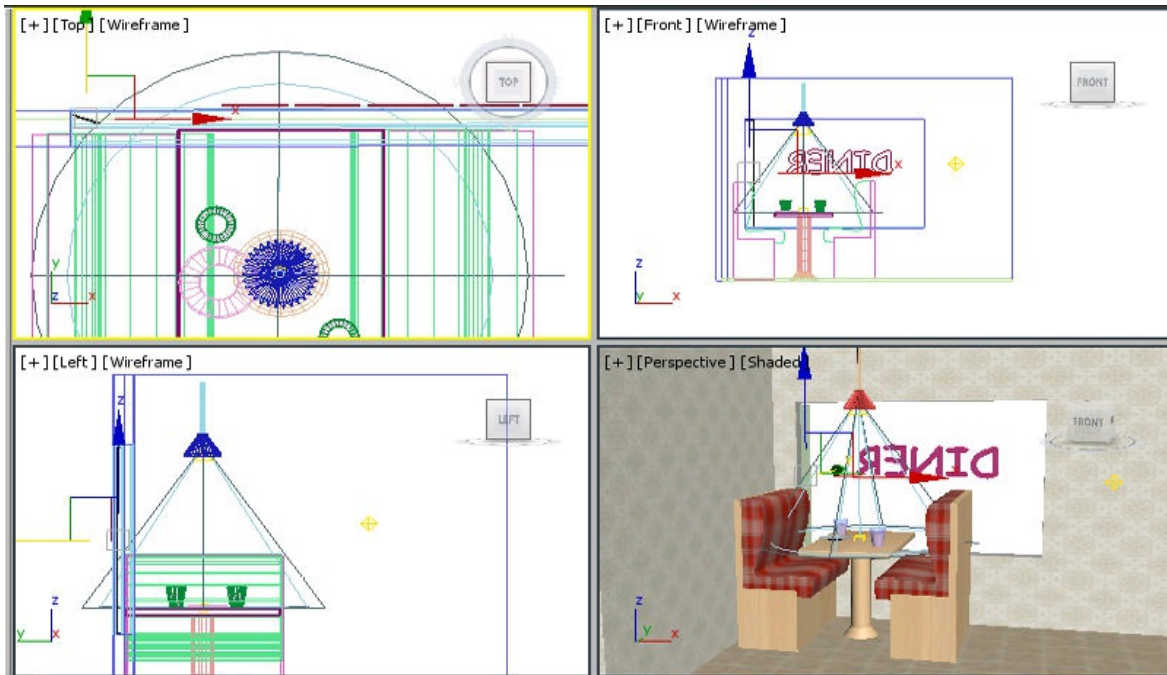

Figure P1-23 Blind01 created and positioned
6. Align *Blind01* in the viewports, as shown in Figure P1-23.